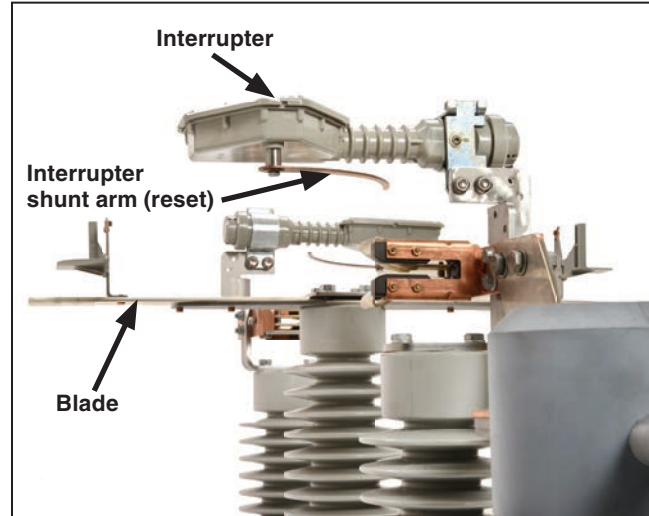

Figure 47. Make sure the interrupter and interrupter shunt arm is parallel to the sweep of the blade.
- (a) Open and close the switch and examine the interrupter and blade alignment. The interrupter and interrupter shunt arm must be parallel to the sweep of the blade. See Figure 47.
As the blade reaches its full travel the interrupter shunt arms will be released and will quickly snap back to their closed positions and reset for the next operation. See Figure 47.